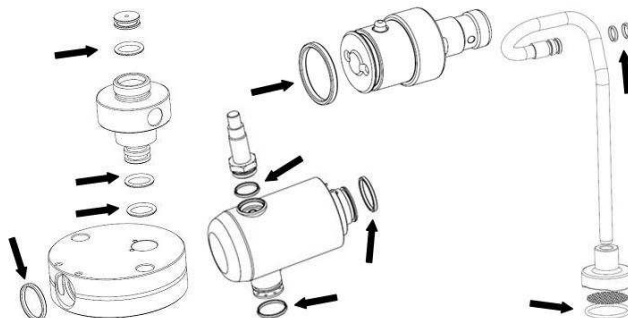

fig. 22
- Remove **all** O-rings. For O-rings on the inside, you should use the paperclip. Discard **all** removed O-rings! (fig. 22)